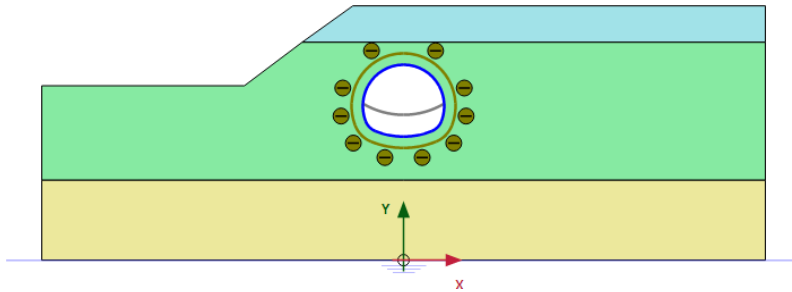

Figure 6.9 Configuration of Phase 4
- Activate the remaining lining and interfaces. All the plates and interfaces around the full tunnel are active (Figure 6.9).